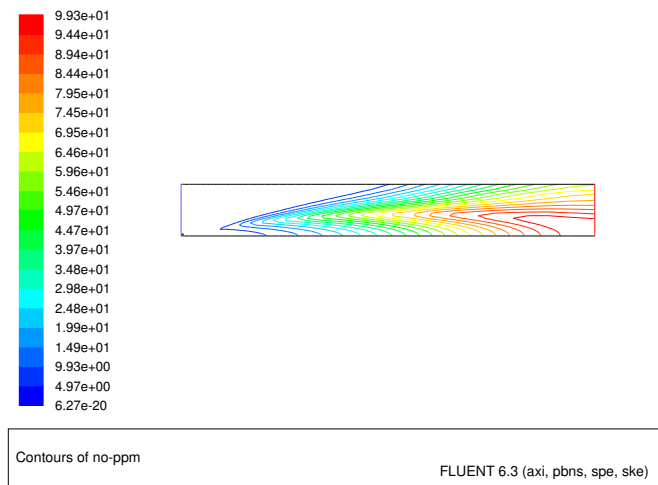

Figure 13.15: Contours of NO ppm: Prompt NO_x Formation
17. Display contours of NO ppm (Figure 13.15).